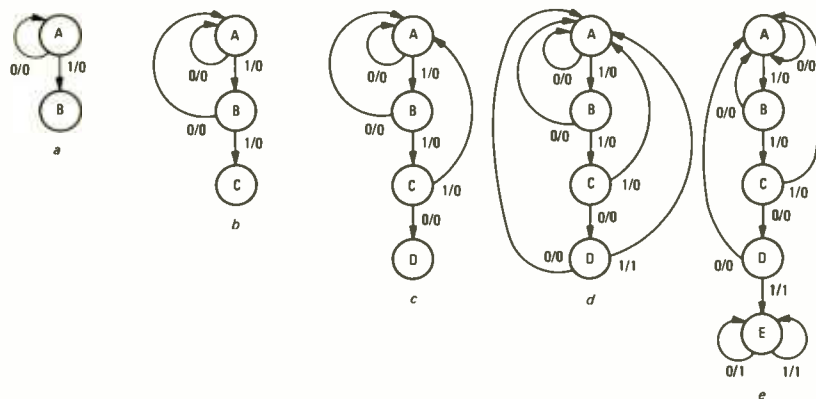

FIG. 22—STATE DIAGRAM is used in designing sequential logic circuits.
i.e., it may start at the first bit entered, or the third, etc. We start the state diagram by assuming an initial state which we call state A, and write this down in a circle. See Fig. 22-a. There are two possible occurrences at state A; we may receive either a 0 or a 1. If we receive a 0, we have not detected the start of the string 1101, so we draw an arrow from A back to itself and label it 0/0 (applied input/generated output). This means we follow this arrow if we are at state A and receive a 0-input, and the output of the circuit is to be 0. The arrow, of course, brings us back to state A to look for the first bit of the string.
go to a new state, called C, which tells us that we have received a 11 so far, and a 0 is to be output. See Fig. 22-b. We follow the same procedure with state C. At state D, if we receive a 0, we have received the string of 1100 instead of 1101, so we return to state A and output a 0. If we receive a 1, however, we have received the desired 1101 string. We now have two alternatives. If we wish to continue checking for the string, we can output a 1 and return to state A, as in Fig. 22-d, or